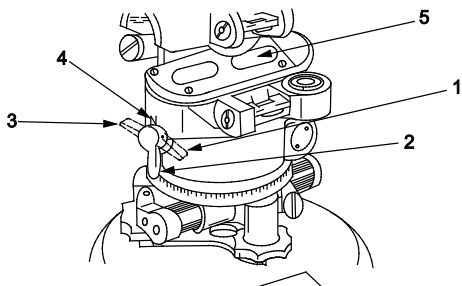

Figure 7. Magnetic Compass Lever.
1. Turn and hold the locking lever (Figure 7, Item 1) in this position. Releasing the locking lever will let it return to the locked position. The magnetic compass needle movement may be observed through the compass compartment window assembly (Figure 7, Item 5).
2. The locking lever (Figure 7, Item 2) is in the locked position and the magnetic compass cannot move. Keep it in this position when magnetic compass is not used or when carrying or transporting the Aiming Circle.
3. The locking lever (Figure 7, Item 3) is in the unlocked position and stays in this position until turned to locked position. The magnetic compass moves.
4. The North end of the magnetic compass needle is indicated by N (Figure 7, Item 4) on the main housing.